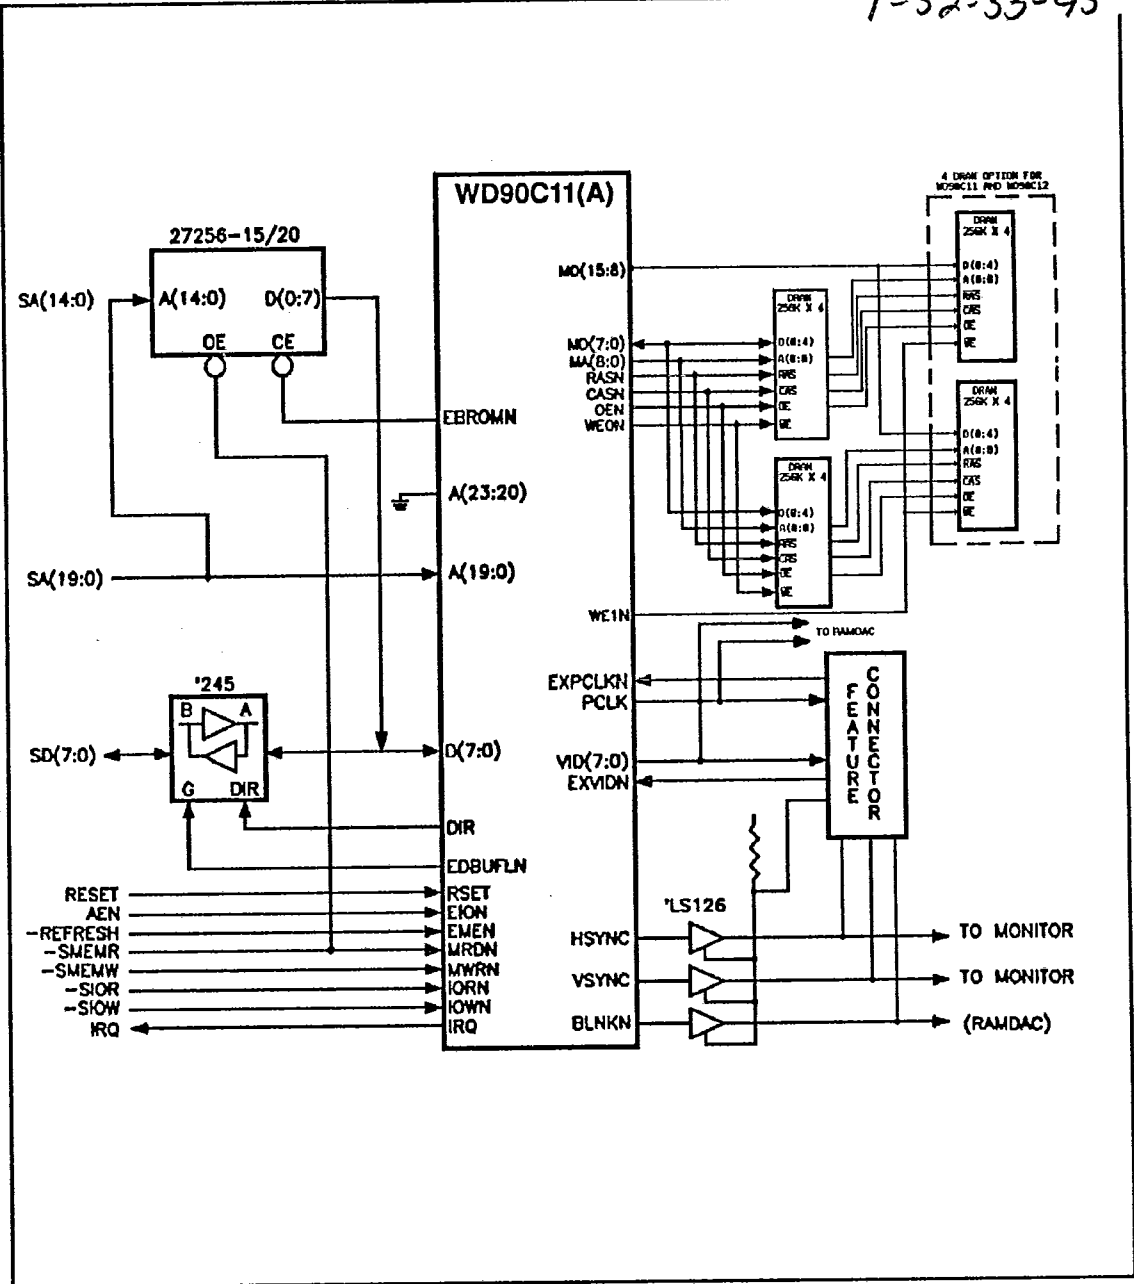

FIGURE A-2. 8-BIT PC AT INTERFACE WITH 8-BIT BIOS
Figure A-2 shows a block diagram of the WD90C11(A) with 8 bit PC/AT interface using 8 bit buffers and BIOS. The system data bus SD(7:0) and address